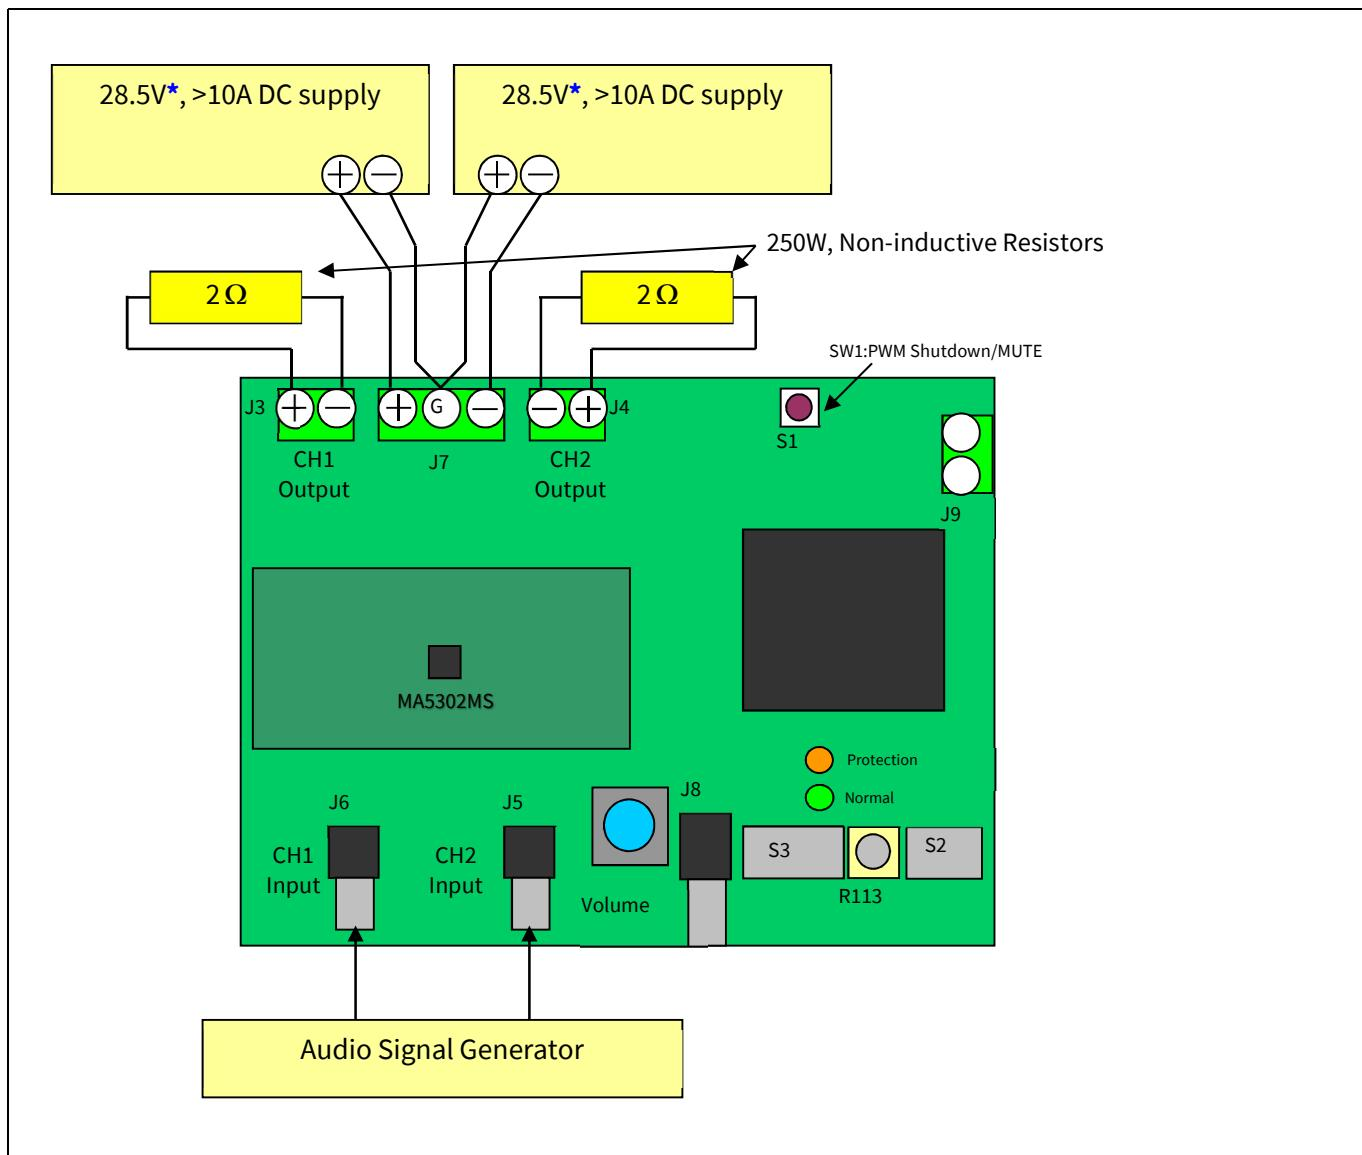
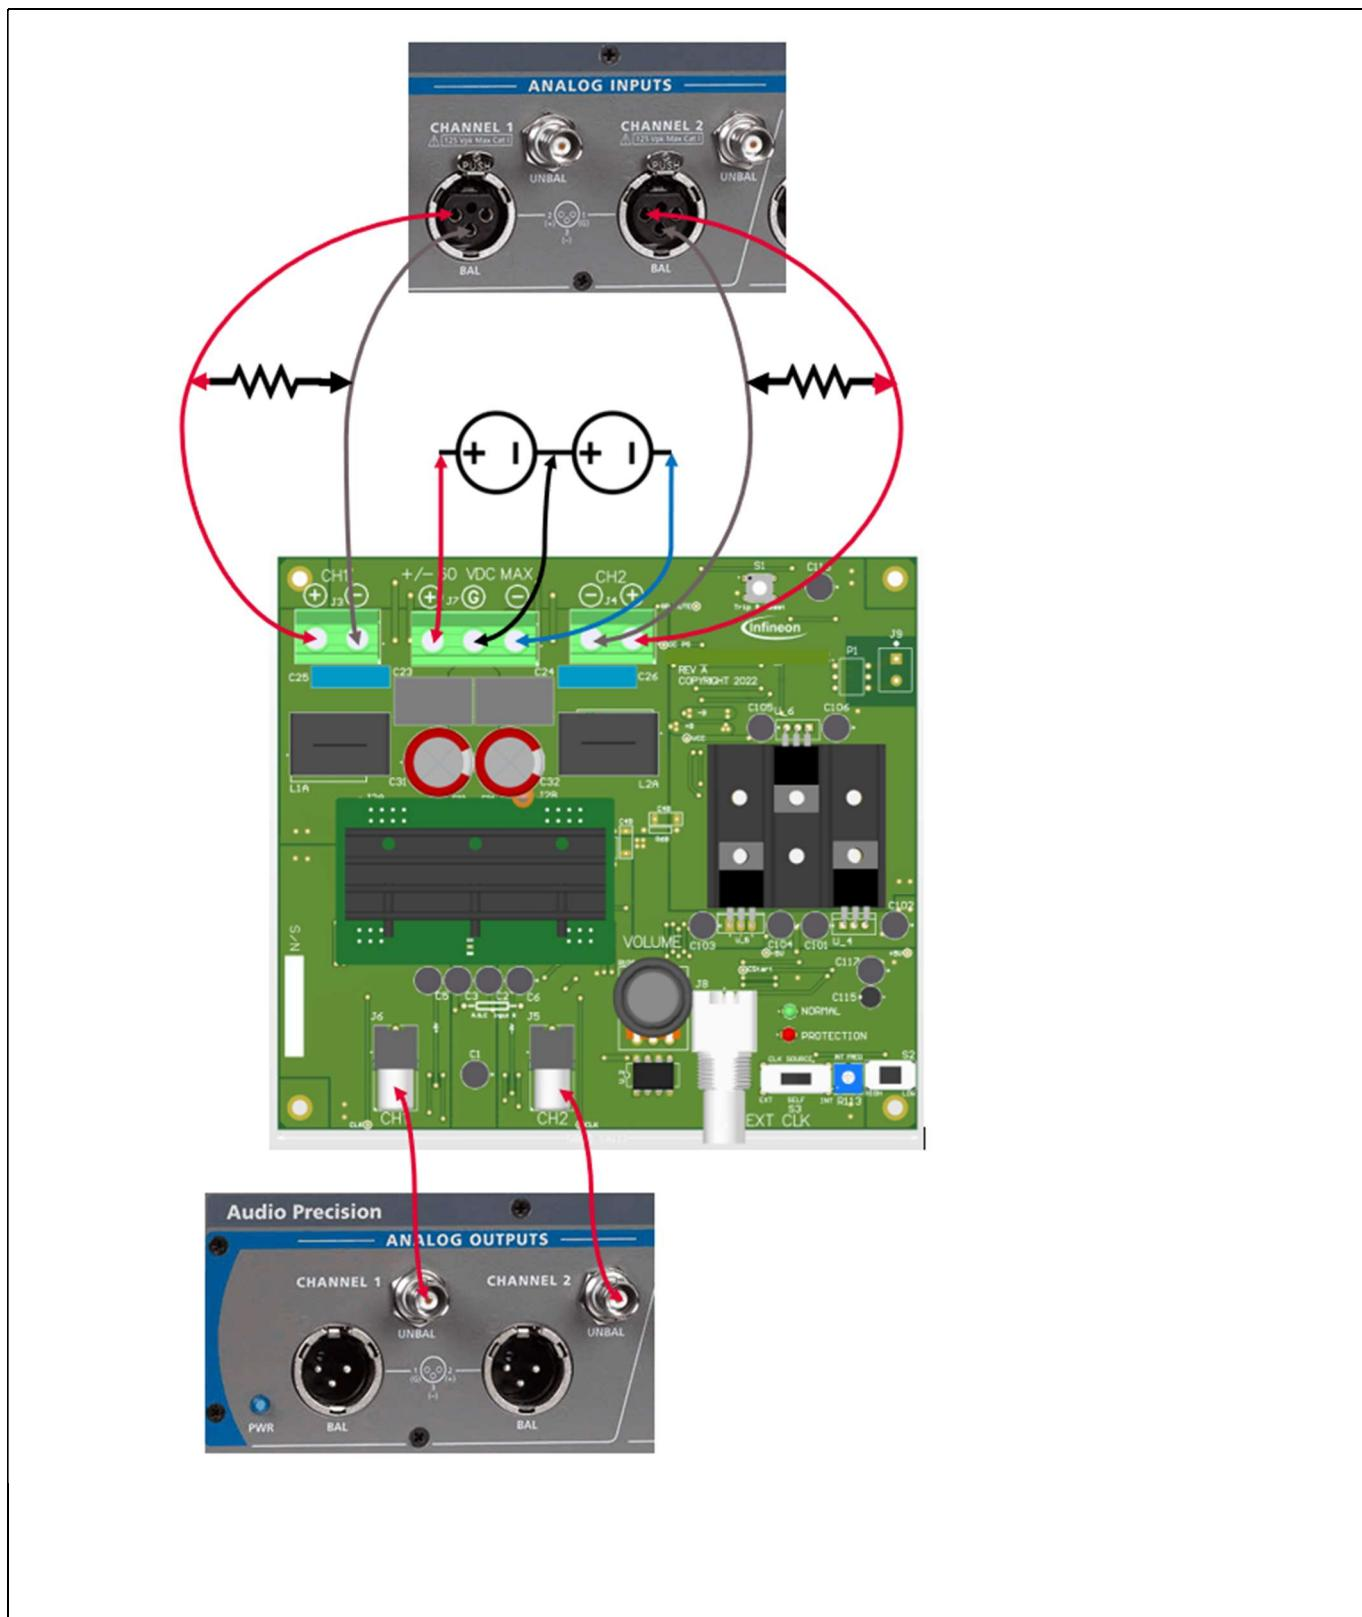

Figure 2 Typical connection connector description
Figure 3 **Audio analyzer connection**
1. Connect $2\ \Omega$ 250 W dummy loads to output connectors (J3 and J4 as shown in Figure 2) and parallel it with the input of the Audio Precision (AP) analyzer.
2. Connect the Audio Signal Generator (ASG) to J6 and J5 for CH1 and CH2 respectively (AP).
7. Connect the dual power supply to J7, as shown in Figure 2 or Figure 3